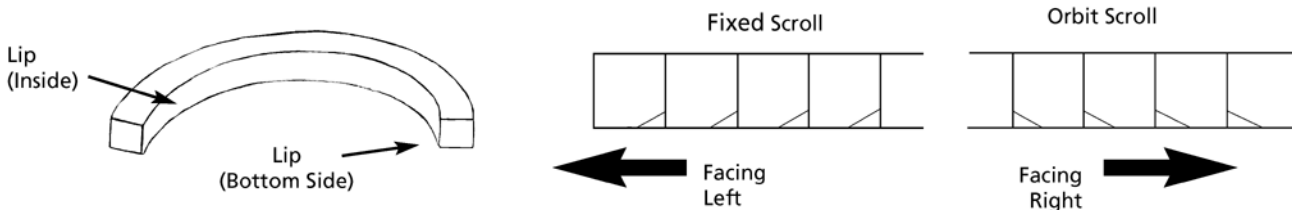

Figure 5. Identifying Fixed and Orbit Scroll Tip Seals.
- h. Prior to installing the tip seals, the fixed and orbit scroll tip seals must be identified. They have opposing seal cut angles. See Figure 5 to identify the fixed and orbit tip seals.